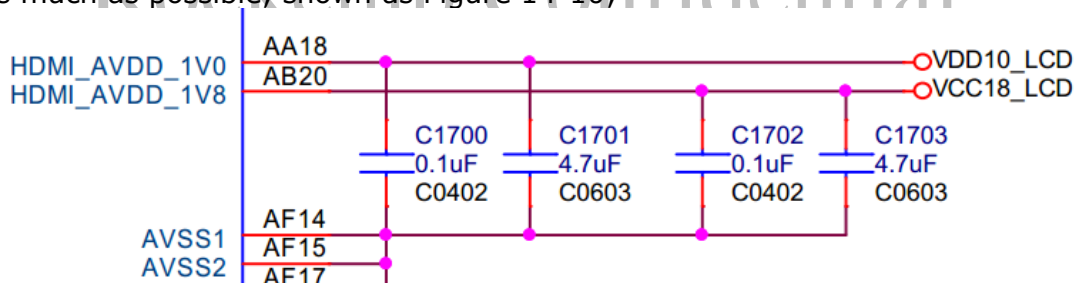

Figure 14-10
- Please place the power decoupling capacitors for each module close to the pins as much as possible, shown as Figure 14-10;